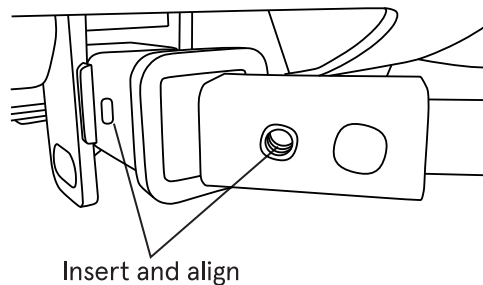

Fig. 11
1. With 1-Hole Anti-Rattle Threaded Plug installed and aligned, insert rack onto vehicle by sliding the Hitch Tongue into the hitch receiver (**Fig. 11**).